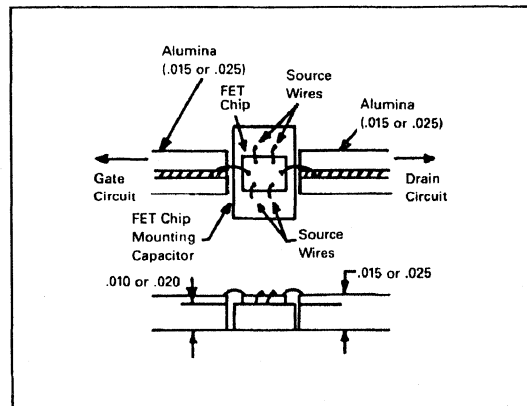

Figure 2. Board Layout
6. The variation of output and frequency with operating voltage is shown in Fig. 2 for typical X band diode. The variation of output power with frequency can be reduced by use of voltage tracking as shown in Fig. 3.